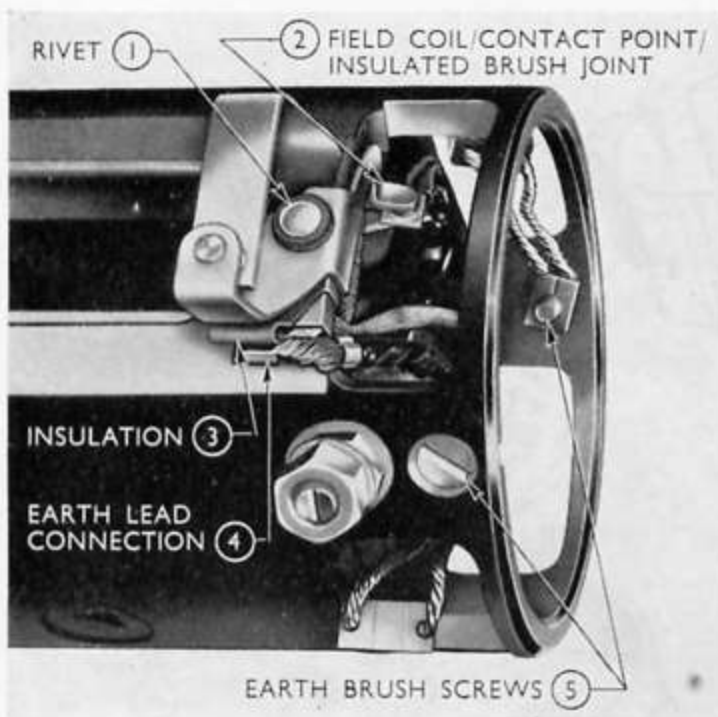

Fig. 17
9. Unscrew the two screws retaining the earth leads to the starter yoke. One lead is also soldered to one side of the contact points and this lead should be cut as near to the connection as possible. Remove the brushes (see Fig. 17).
2. Unsweat the connection joining the field coils to the earth brush lead and the contact points (see Fig. 17).